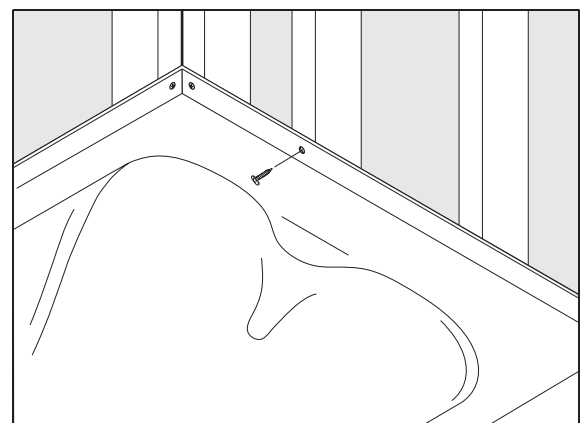

FIGURE 2. If necessary, shim between tub and studs for tight fit and screw to each stud.
- After tub is leveled, if alcove is larger than tub, shim between tub and studs to create a tight fit. Screw tub flange to studs (Fig. 2).